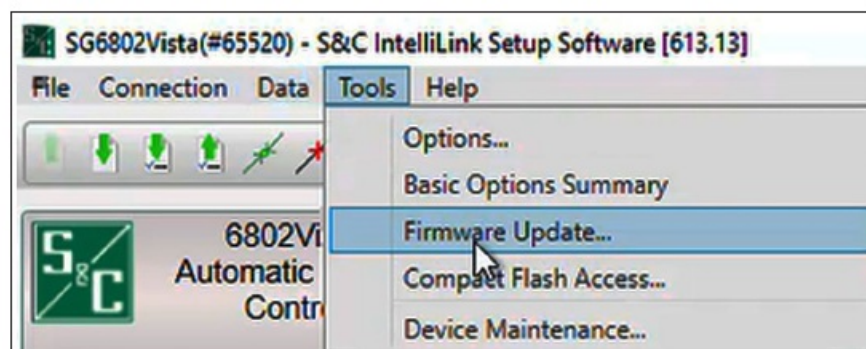

Figure 17. The Tools>Firmware Update menu option.
- **STEP 6.** In the Tools menu on the menu bar, click on the Firmware Update menu option. See Figure 17.